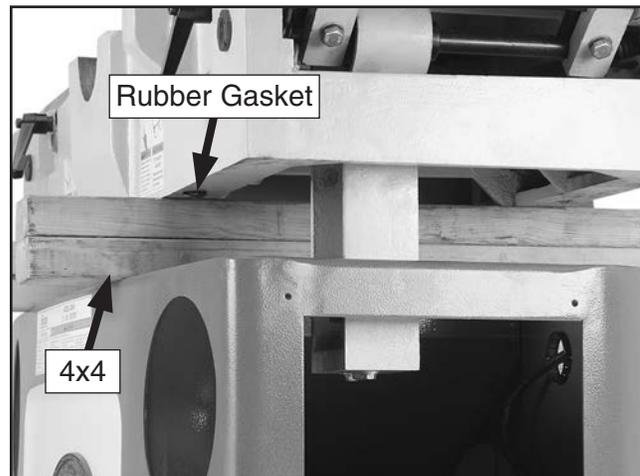

Figure 6. 4x4 placed between cabinet and bed on infeed side of jointer.
15. While two assistants lift infeed table, place a 24" long 4x4 board (or two 2x4s nailed together) between cabinet and bed, as shown in **Figure 6**.
Note: Be careful not to knock off rubber gaskets (see **Figure 6**) located on bottom of base. If you accidentally knock gaskets loose, place them in a safe location for later re-installation.